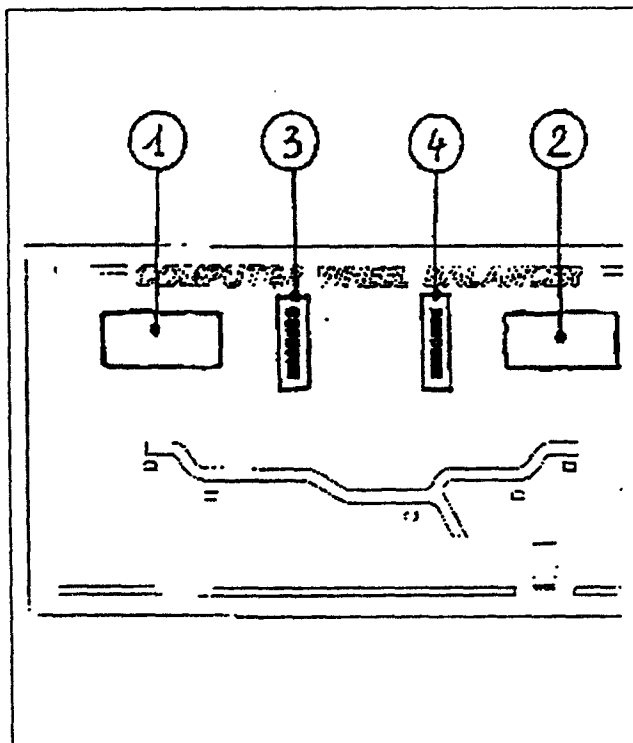

Fig.64
- H. Position the rim as indicated on the angular position display (#3 and #4 Fig. 64)
- I. Position the rim as indicate on the angular position display (#4 Fig. 64).